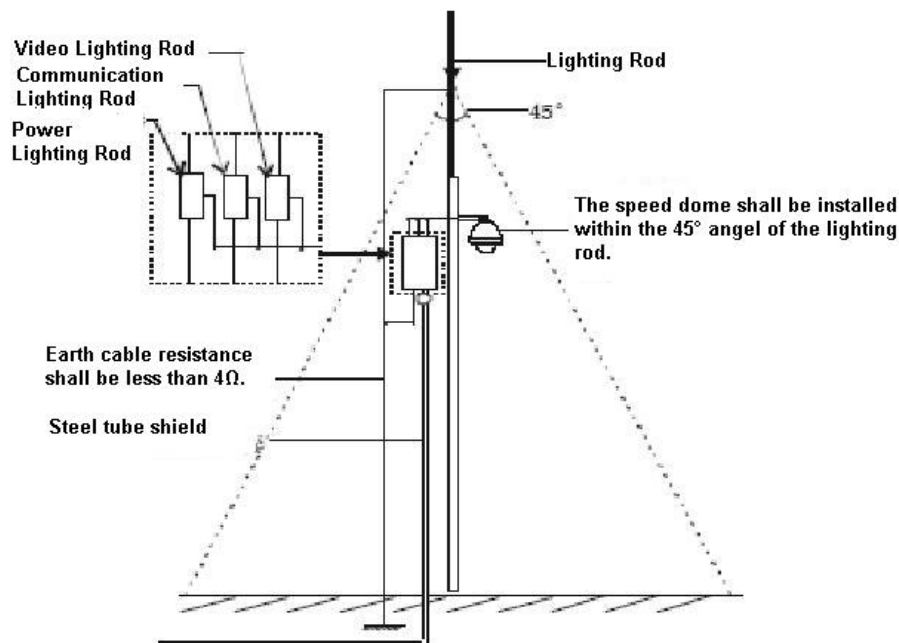

Figure 6-1
- System shall adopt equal-potential wiring. The earth device shall meet anti-jamming and at the same time conforms to your local electrical safety code. The earth device shall not short circuit to N (neutral) line of high voltage power grid or mixed with other wires. When connect the system to the earth alone, the earth resistance shall not be more than $4\ \Omega$ and earth cable cross-sectional area shall below $25\ \text{mm}^2$. See Figure 6-1.